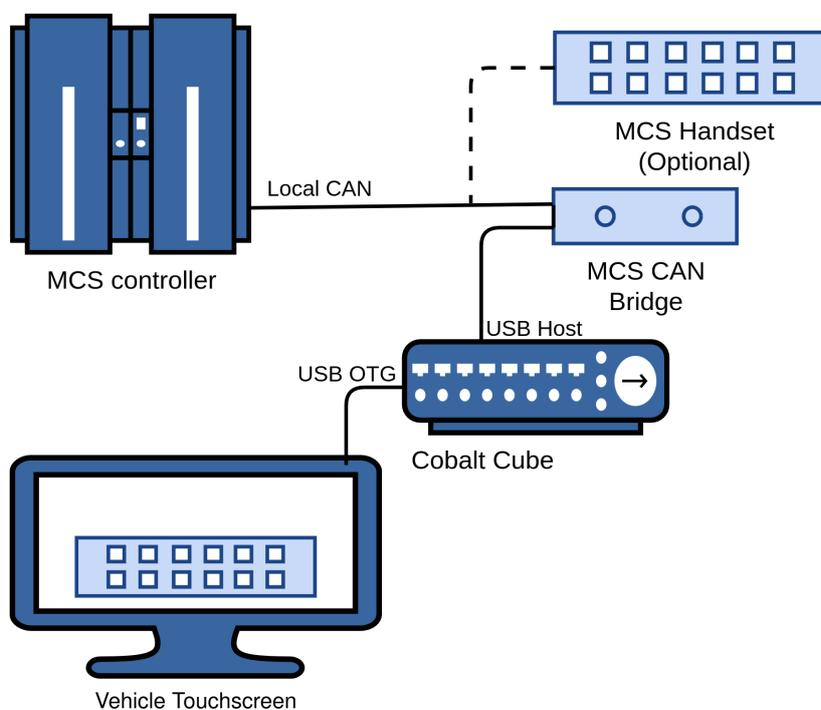

Figure 1: MCS Control connectivity diagram
The Cobalt Cube works in harmony with the existing MCS configuration tool from Standby® (see Figure 1). Each MCS is configured as before to have the desired handsets, inputs and outputs, via the Windows configuration tool provided by Standby®. The Cobalt Cube MCS Control application works by reflecting the existing handset configuration of each MCS. On application start, the software reads the handset configuration, via the USB-serial interface, and reflects the instantaneous state of each handset button and shows this on the equivalent User Interface (UI). This button state includes the button colour set for its on and off states and also if it is currently illuminated.
Figure 1 shows the connections between the Cobalt Cube, MCS components, and the vehicle touchscreen.